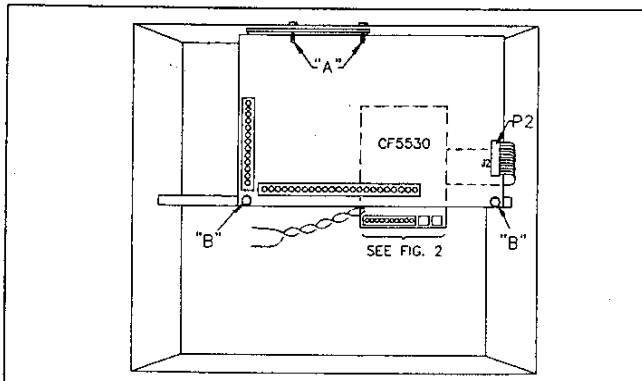

Fig 1. Location of CF5530 within H11518 enclosure.
1. Remove the motherboard from the enclosure by removing the two screws that secure the heat sink to the top of the enclosure ("A" in Fig. 1) and the two screws at the bottom of the board that secure it to the cross rail ("B" in Fig. 1).